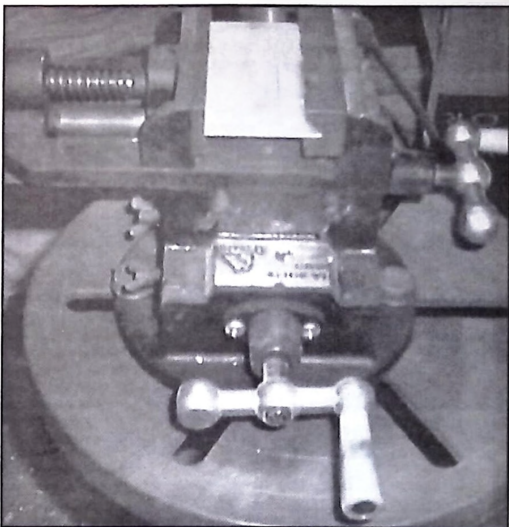

FIGURE 7
**Step 5: Drill the board.** Of all the steps, drilling your board can end up being the most difficult for some people, simply because the holes are so tiny. Please remember to always wear safety glasses while using power machinery. If you can borrow a friend's drill press, this will make the job much easier. Cheap X-Y vises on the drill press will really make things easier. My drill press has a \$35.00 X-Y vise, seen in Figure 7. The vise is very useful for multiple inline holes. Clamp the board in the drill press, set it to as high a speed as possible, and drill the holes.